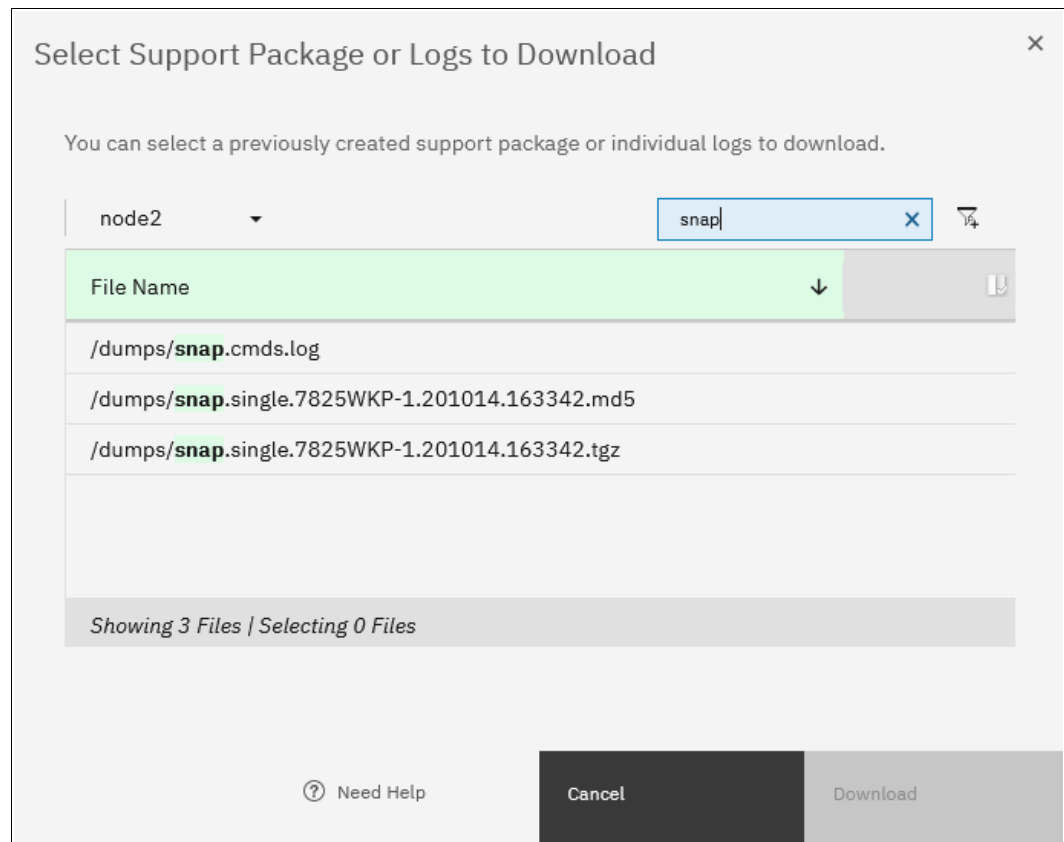

Figure 13-67 Filtering on snap to download
2. Click in the **Filter** box and enter snap to see a list of snap files, as shown in Figure 13-67. Find the exact name of the snap that was generated by running the `svc_snap` command that was run earlier. Select that file, and click **Download**.